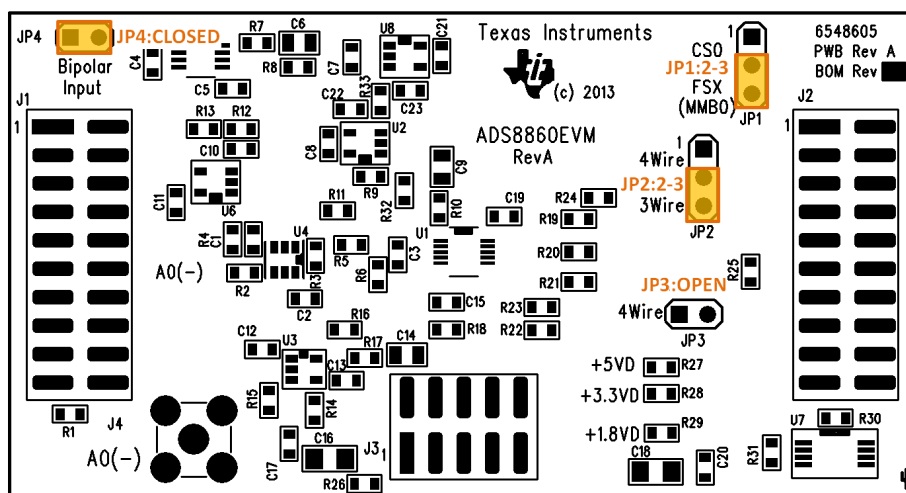

Figure 8. ADS8860EVM Jumper Configuration
- Step 3. Set JP1:2–3, JP2:2–3, JP3:open, and JP4:closed on the ADS8860EVM, as shown in Figure 8.